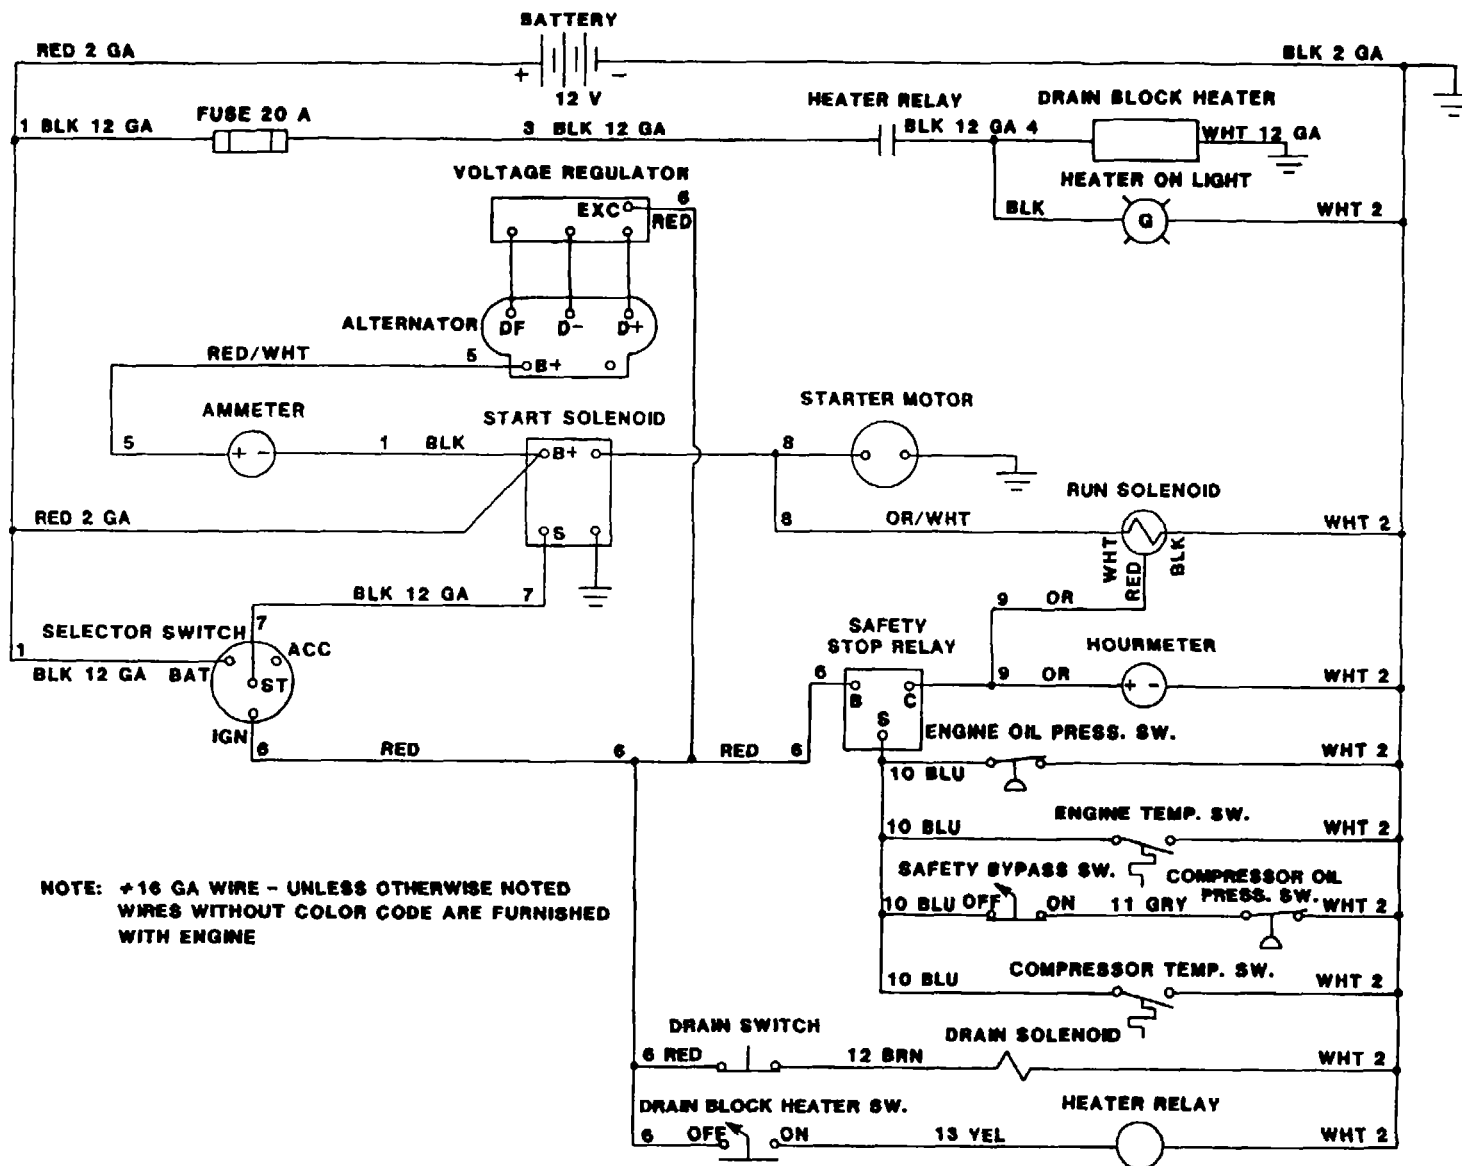

Figure 3-48. Wiring Diagram
2. Disconnect wires 1, 6 and 7 (figure 3-48, rear, item 8).